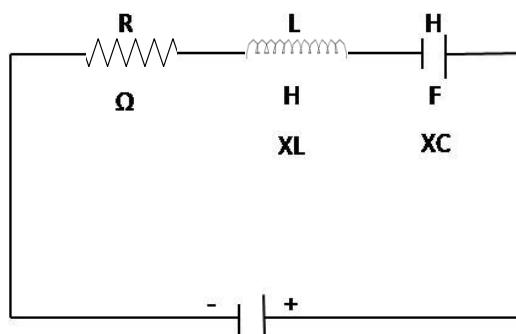

Figure 16
- Wire the circuit on the board as shown in Fig. 16. (Note that the switch is in the off position).